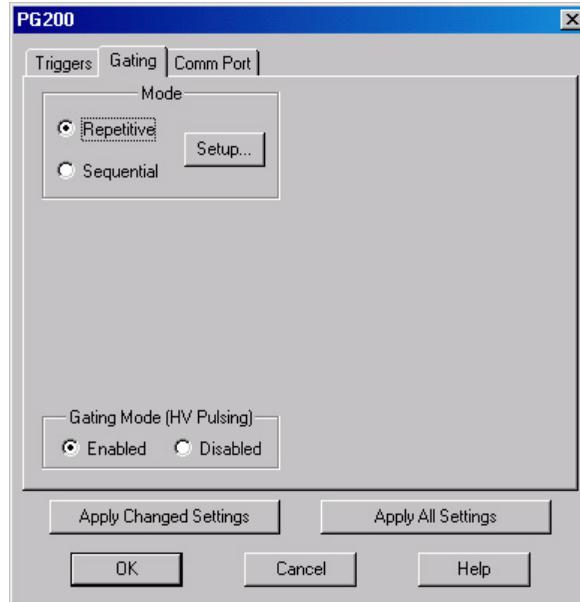

Figure 160. PG200 Gating tab page
4. Click on the **Gating** tab (Figure 160).